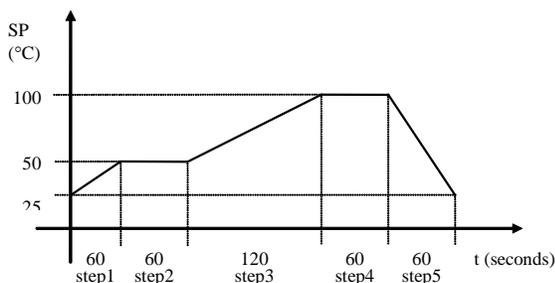

Fig.1 – Setpoint Profile
2) The two arrays define the Setpoint value (y-axis) in function of the time (t-axis). Between two given points, the Setpoint is calculated by interpolation. As each segment is defined by [START\_VAL]i, [DURATION]i and [START\_VAL]i+1, a profile with “n” segments will need **n+1** starting values and **n** time durations. As example, the two following arrays define the profile shown on Fig. 1: